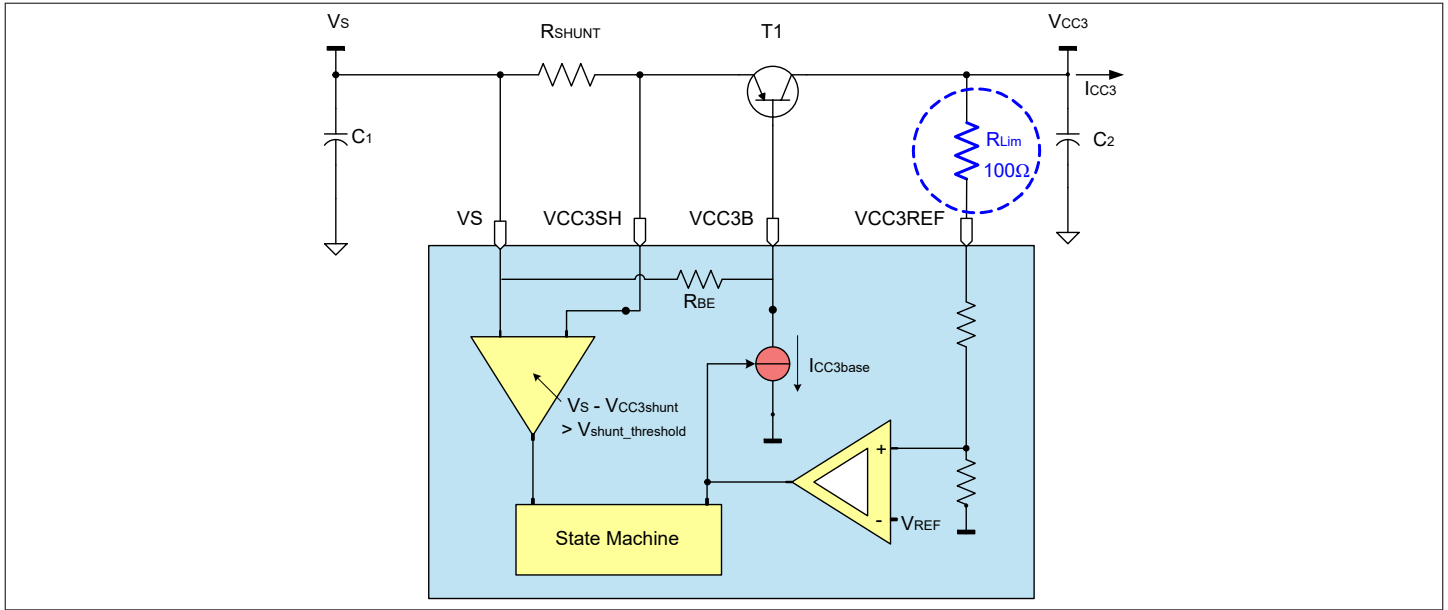

Figure 19 Protecting the VCC3 against inductive short circuits when configured as an independent voltage regulator for off-board supply
3. If the VCC3 output voltage is supplying external off-board loads, the application must consider the series resonance circuit built by cable inductance and decoupling capacitor at the load. Sufficient damping must be provided (e.g. a 100Ohm resistor between the PNP collector and VCC3REF with 10uF capacitor on collector see also Figure 19).